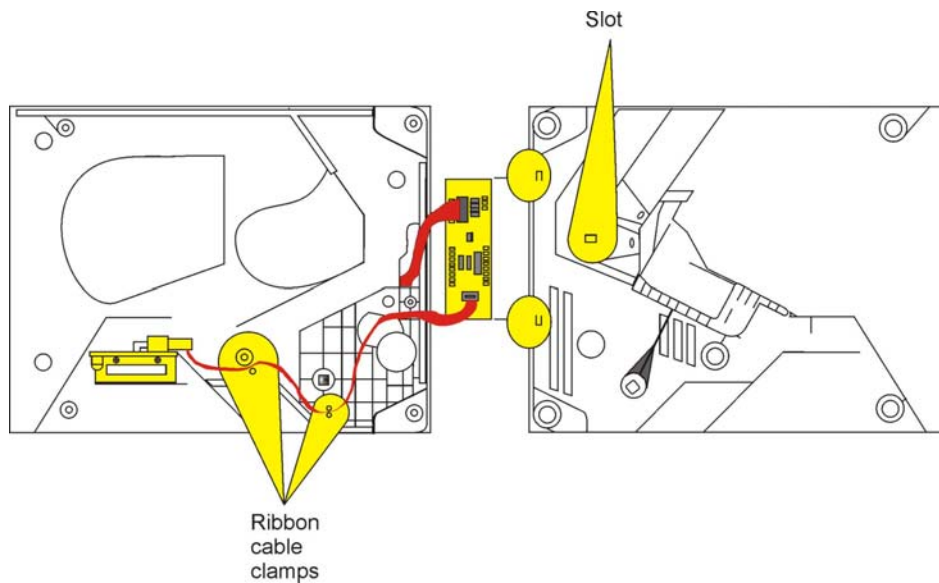

Figure 20: Coin Box Assembly 1
2. Line up the 'Centre Plate' & 'Coin Box' as shown below. Figure 20.
3. Route the ribbon cable as shown in Figure 20.
4. Fit the 'Logic Board' into slots shown in Figure 20.
5. Feed the level sense wires through the slot shown in Figure 20.